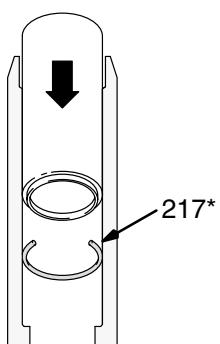

Fig. 30
8. Place a o-ring (17*) in the cylinder. Slide the sleeve in to the cylinder to seat the o-ring. See Fig. 30. Remove the sleeve.